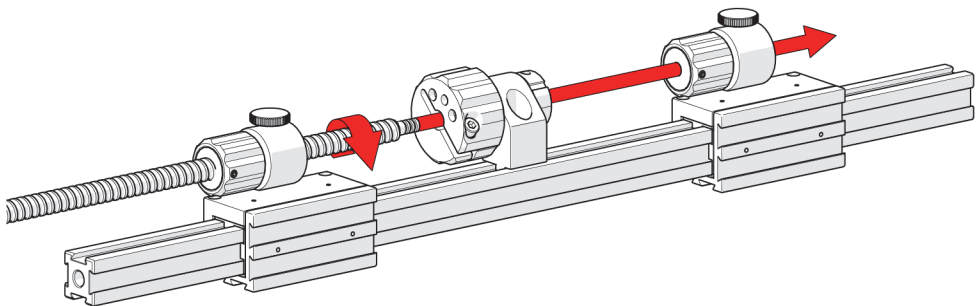

Figure 2-54 Installing the leadscrew
4. Screw the lead screw into the first slider, then the main knob and finally the second slider assembly (see Figure 2-54 on page 73).